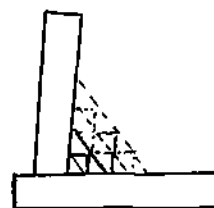

Figure 8-21. Use Smallest Weld Size Permissible
1. Use smallest permissible size of weld on fillets (Figure 8-21)